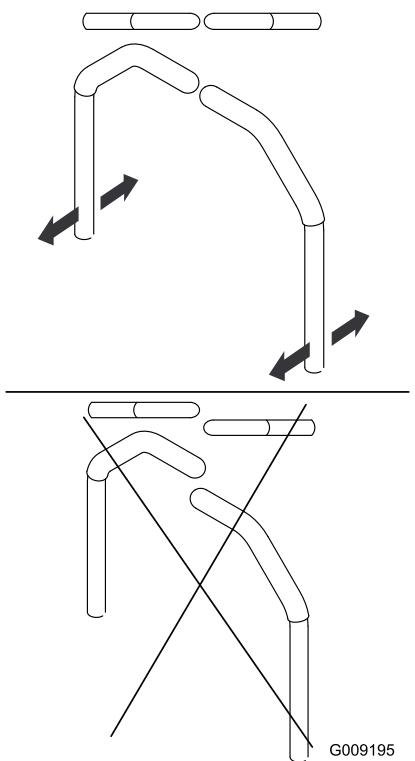

Figure 60
3. Align the front-to-rear position of the handles by bringing them together to the neutral position, and sliding them until they are aligned (Figure 60).